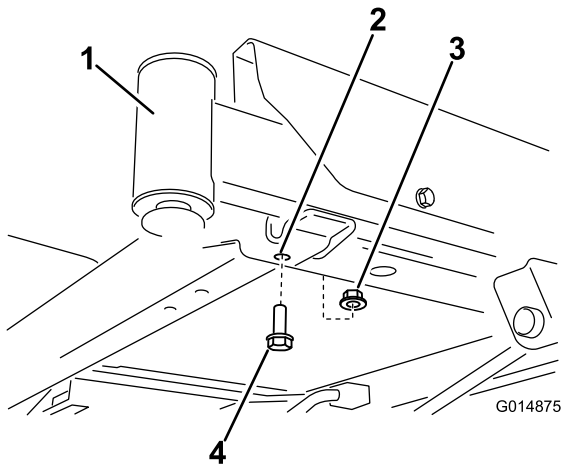
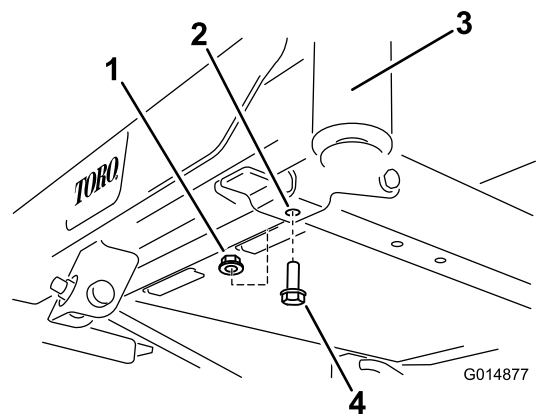

Figure 5
Figure 6
2. Locate the front bolts on the underside of the frame (Figure 5 and Figure 6).
3. Remove the 2 bolts (3/8 x 1 inch) and 2 locknuts (3/8 inch) as shown in Figure 5 and Figure 6.